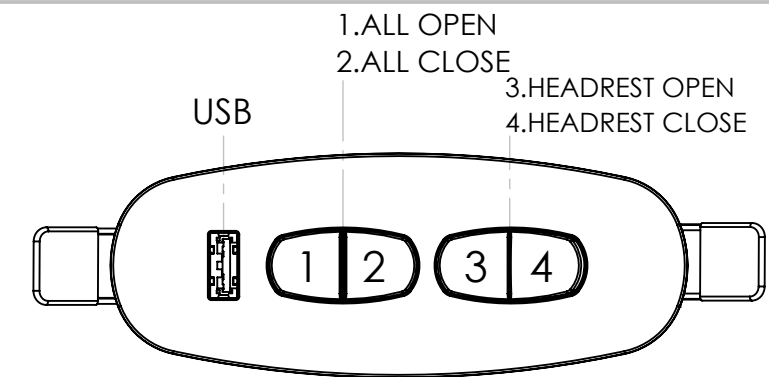
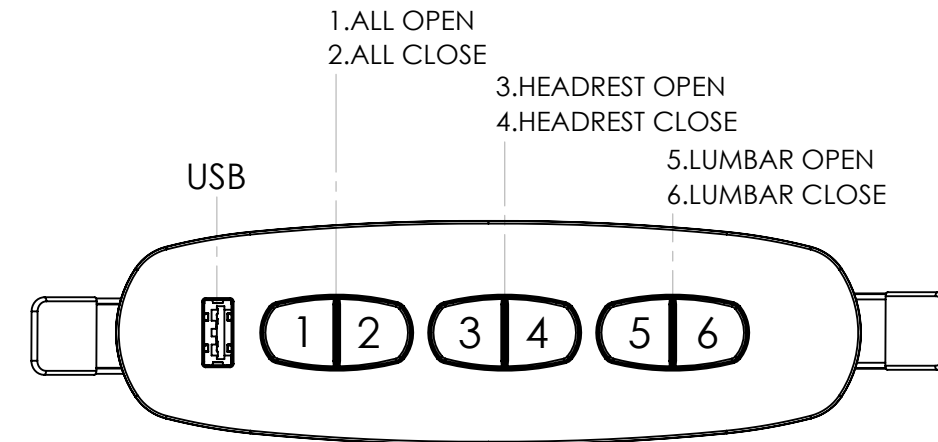

FIG 2
FIG 3
- SEE FIG 2 FOR TWO TOGGLE SWITCH FUNCTIONALITY AND FIG 3 FOR THREE TOGGLE FUNCTIONALITY.